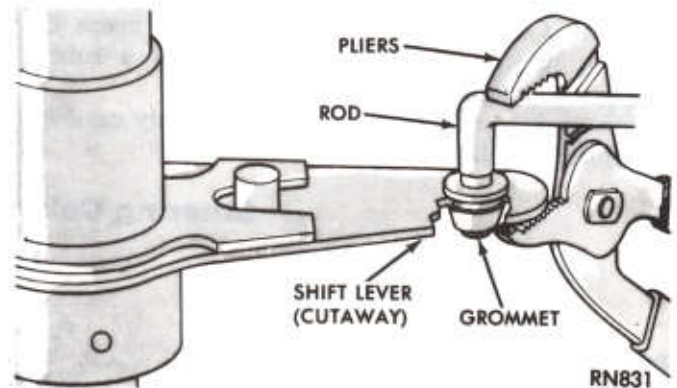
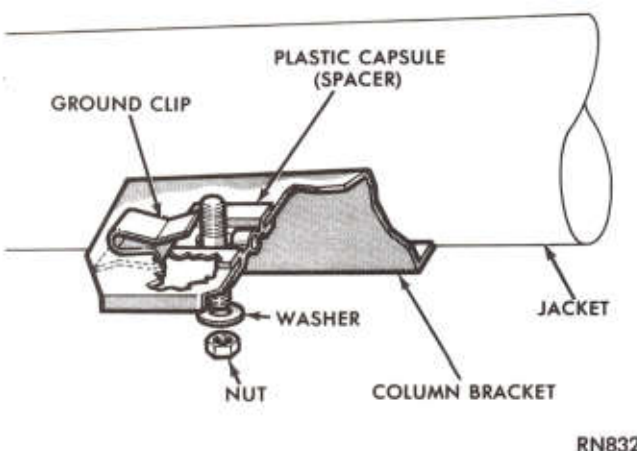

Fig. 21—Installing Rod into Grommet
Fig. 20—Ground Clip and Plastic Spacer
(1) Install ground clip on left capsule slot (Fig. 20). Both plastic capsules should be installed in the bracket slots. Insert column assembly through floor pan opening, being careful not to damage paint or trim.
(2) With front wheels in straight ahead position and master splines on wormshaft and coupling aligned, engage coupling with wormshaft and install the roll pin. **CAUTION: Do not apply end loads to steering shaft.**
(3) Hold column assembly with bracket slots on mounting studs. Install but **do not tighten** the two upper bracket washers and nuts.
(4) After assuring that both capsules are fully seated in their slots in the column support bracket, tighten the two upper bracket nuts to 110 in. lbs. (12 N·m).
(5) Position floor plate over floor pan opening, centering it around the column, then install and tighten retaining bolts.
(6) Place steering wheel on steering shaft with master spines aligned. Install retaining nut and tighten to 45 ft. lbs. (61 N·m). **CAUTION: Do not drive wheel on shaft; draw wheel down with retaining nut.**
(7) Install horn switch parts previously removed from steering wheel. Connect horn switch wire.
(8) Connect wiring connectors at steering column jacket. Connect battery ground cable, test operation of lights and horns.
(9) Connect link rod to shift lever by snapping rod into grommet with pliers (Fig. 21). (Grommet must always be installed into lever before rod is inserted